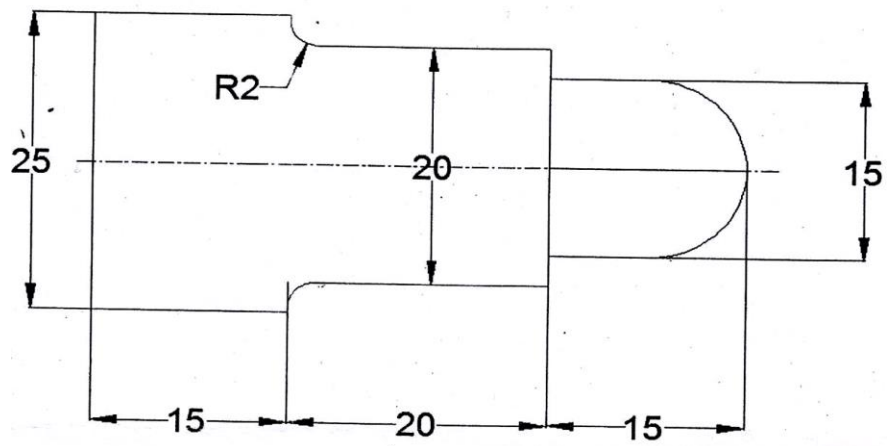

Figure-3
- (d) Write a CNC part program for the component shown in figure-3, to be prepared on CNC turning centre **04**